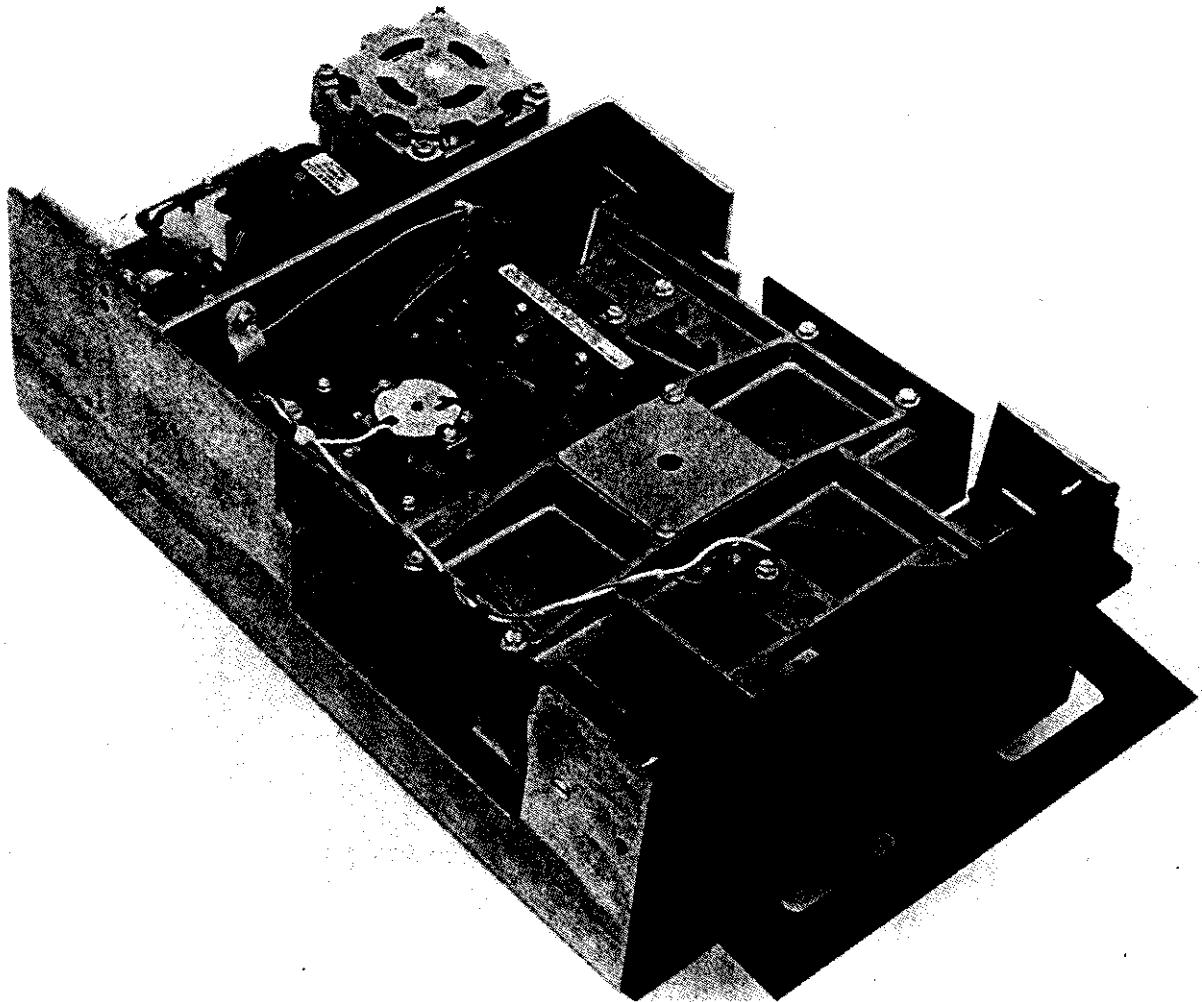

FIGURE 41. PENETRATION PLATE INSTALLATION
- c. With the drive in the horizontal position, remove HAC shield and door open, slide the penetration plate into the drive with the tapered end in first and counter bore side up. Slide the plate up and over the spindle until it's squarely over the spindle and close the door. See Figure 41.